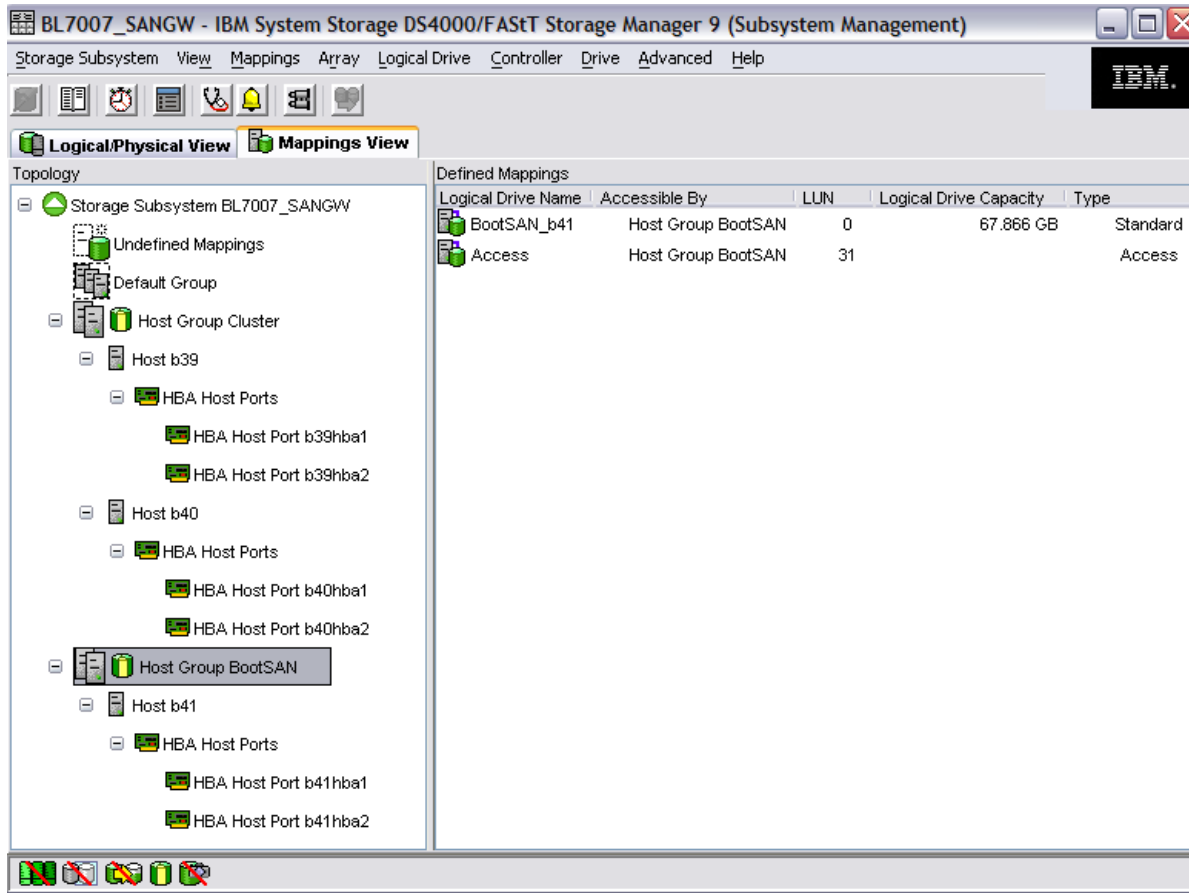

Figure 3-50 Storage Mapping
5. During the synchronizing of the array, proceed with the disk mapping for your server to identify the new partitions on the operating systems. See Figure 3-50 on page 64.